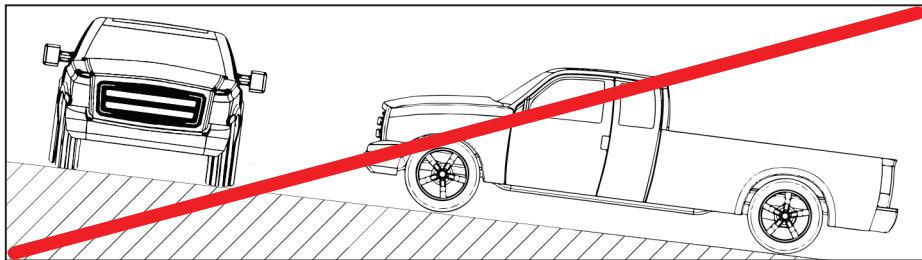

Figure 19 — Do not exceed 15° grade
- ☐ Ensure the system is not mounted (or parked) on grades exceeding 15° as this will affect lubrication and air/oil separation (Figure 19).